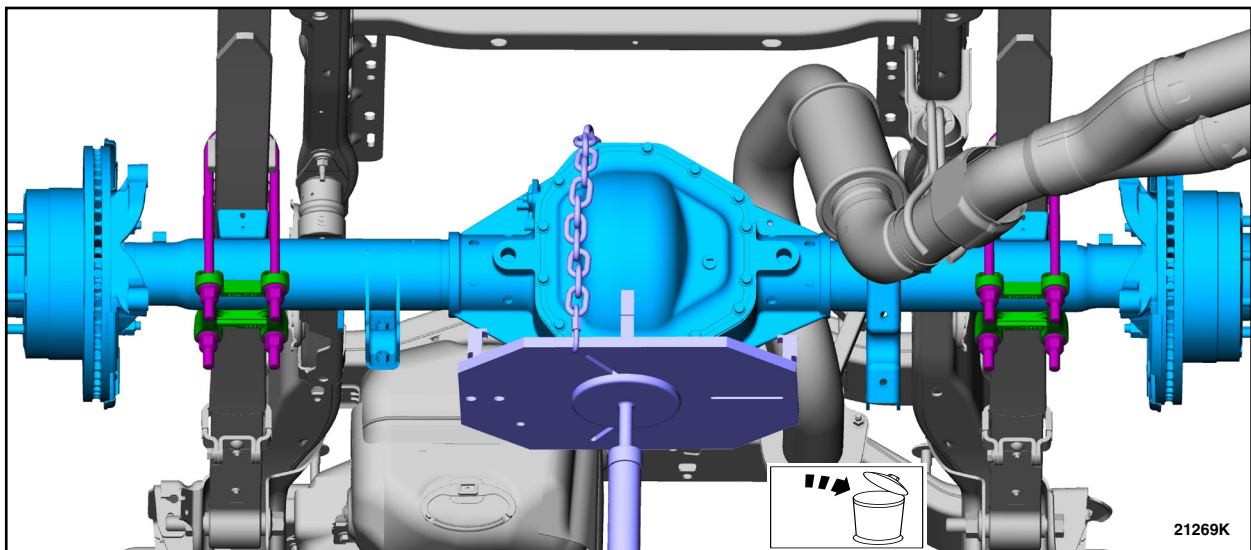

FIGURE 8
8. With the axle assembly supported with a suitable lifting device, remove and discard the rear spring U-bolts and U-bolt nuts and remove the U-bolt mounting plates. See Figure 8.